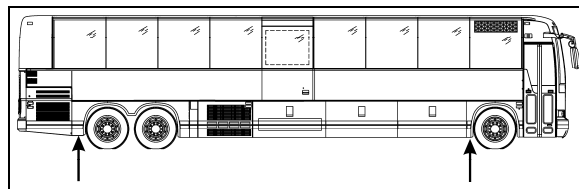

FIGURE 4: JACKING POINTS ON FRAME (TYPICAL) 18618
3. Clean the area around the fill plug. Remove the fill plug from the differential axle housing bowl (Fig. 4).
1. Raise vehicle by its jacking points on the body (fig. 4 or see Section 18, "Body" under heading "Vehicle Jacking Points"). Place jack stands under frame. Remove drive axle wheels (if required, refer to Section 13, "Wheels, Hubs And Tires".